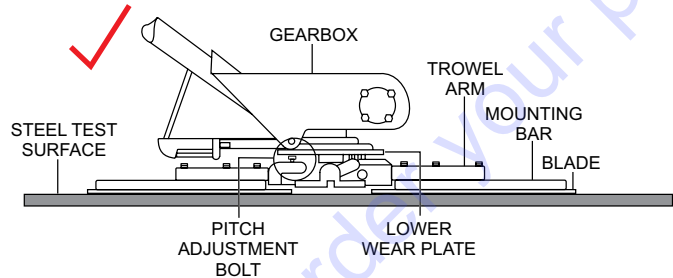

Figure 53. Correct Blade Pitch (Flat)
2. Pitch the blades as flat as possible. The pitch adjustment bolts (Figure 53) should all barely make contact (0.10 inch max. clearance) with the **lower wear plate** on the spider. All pitch alignment bolts should be spaced the same distance from the lower wear plate. If one is not making contact, adjustment will be necessary.